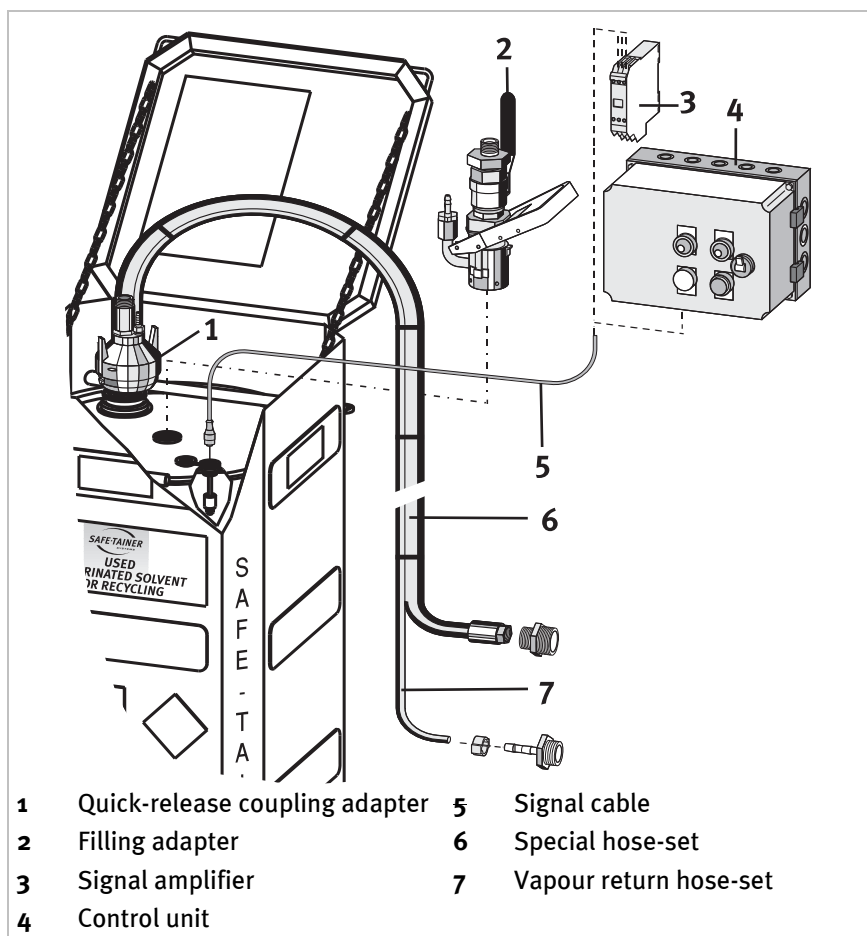

Figure 5: Minimum start-up requirements for SAFE-TAINER system for used solvent
- used solvent, see figure 5 on page 12
- PLC (requires use of signal cable, see position **(5)** at figure 5 on page 12)
- Signal amplifier see position **(3)** at figure 5 on page 12
- Control unit see position **(4)** at figure 5 on page 12